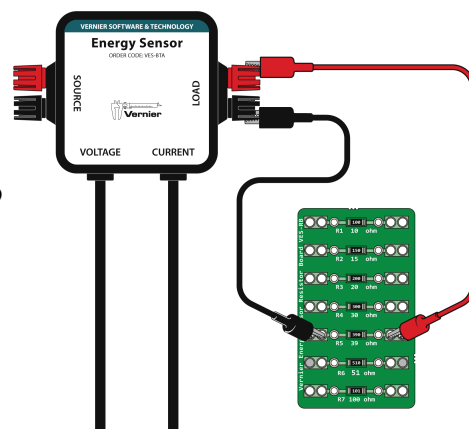

Figure 5
- a. Clip one lead to the black Load terminal and then to the hole on the left side of the 39 ohm resistor (see Figure 5).